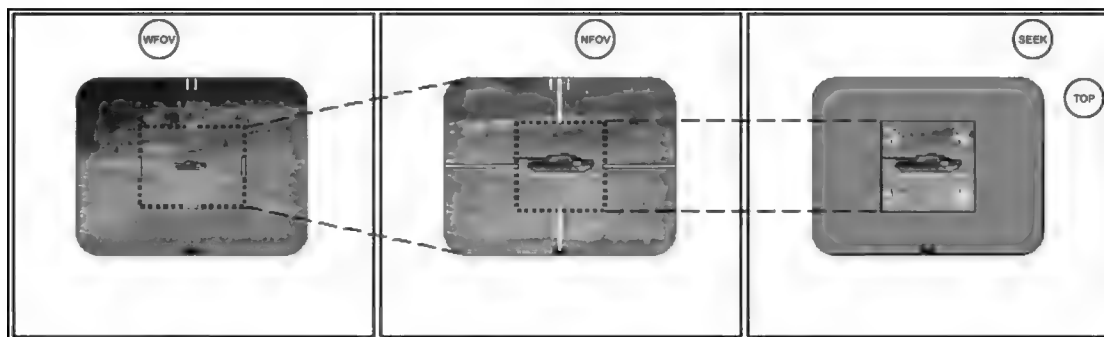

Figure 2-13. Reticle area versus FOV change.
b. **Reticles.** In WFOV and NFOV, lines appear on the CLU display, and the configuration of lines in the reticles change from WFOV to NFOV, which allows the gunner to identify the FOV just by looking at the display (Figure 2-13).